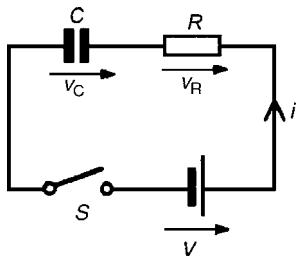

Figure 18.1
- (a) The circuit diagram for a series connected $C - R$ circuit is shown in Fig. 18.1 When switch S is closed then by Kirchhoff’s voltage law: